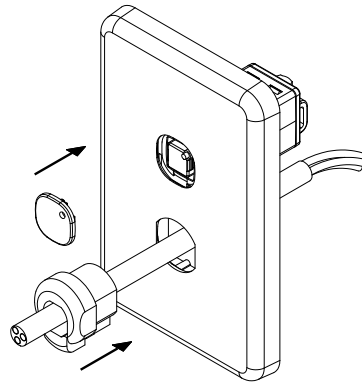

Fig 3: Attach the button to the HNS710RT & pull the cable with the cable clamp through the wall plate
- Clip the button to the HNS710RT. Ensure that the button is oriented so that the LED light pipe is aligned with the hole in the button. Pull the cable with the attached cable clamp through the wall plate, as per Fig 3.